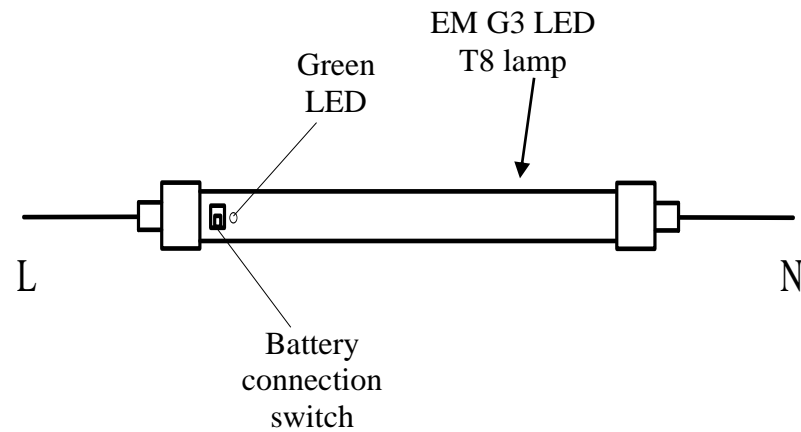

Fig. 1
5. Connect an input line voltage (L and N, see Fig. 1) with the wire(s) connected to lampholder terminals on the fixture using an UL approved 18-14 AWG (0.82-2.08 mm²) twist-on wire connector.